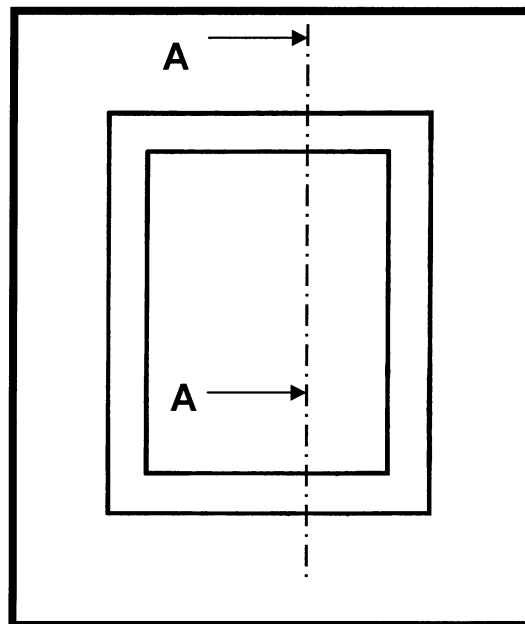

Figure 4.3
- 4.3 **Figure 4.3** shows a sketch of a picture frame.